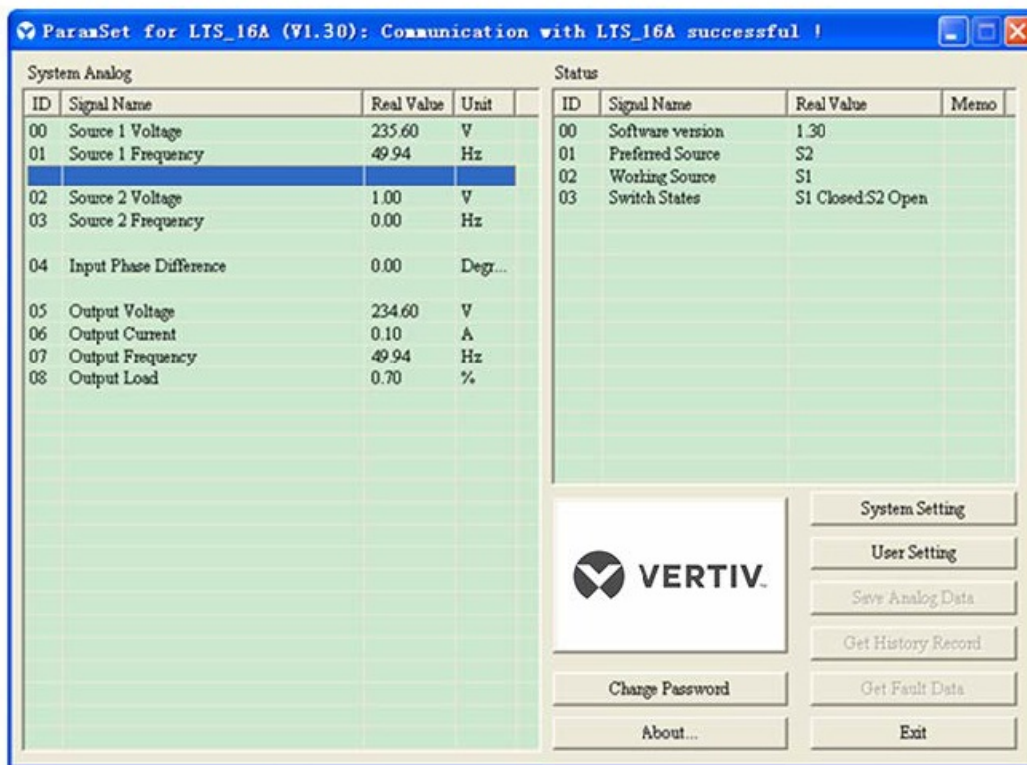
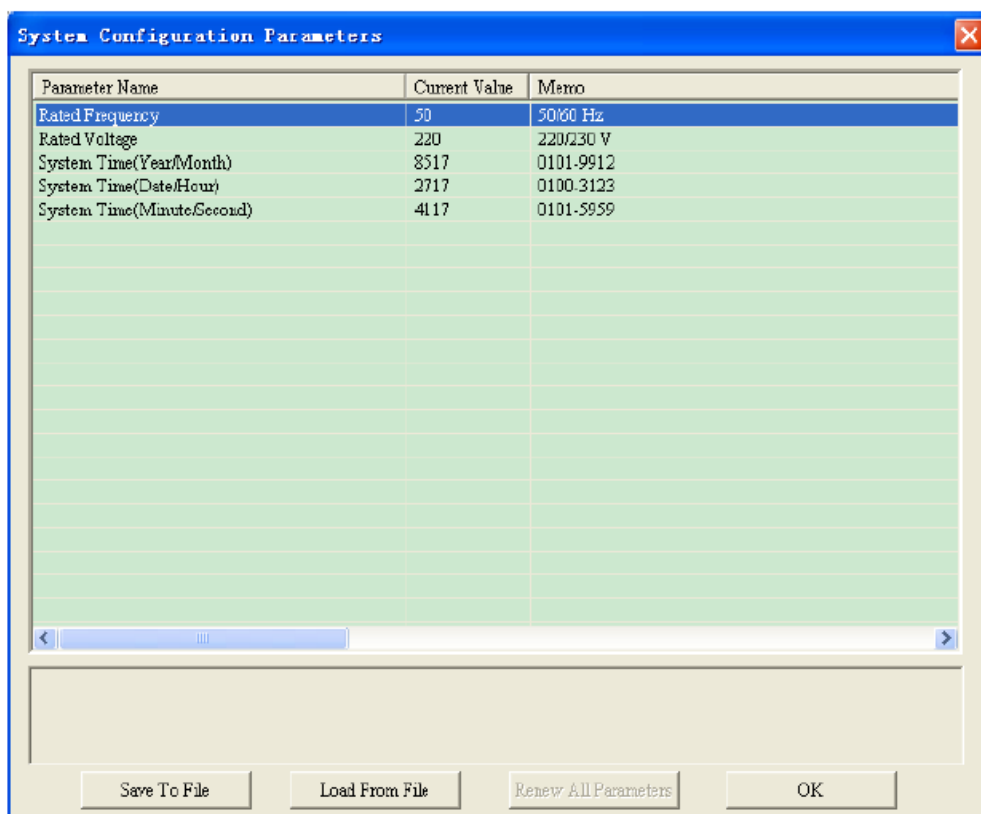

Figure 3-1 System setting interface
Figure 3-3 System Configuration Parameters interface
3. Double-click the ParamSet.exe file of the configuration software in the accessory CD, and the system setting interface appears on the computer screen, as shown in Figure 3-1.
2. Input the old password, and the new password twice. Click the OK button, and the system setting interface shown in Figure 3-1 returns.
- In the interface shown in Figure 3-1, click the System Setting button, and you will access the interface for changing the settings of parameters 1 to 3 in Table 3-1; click the User Setting button, and you will access the interface for changing the settings of other parameters in Table 3-1. The parameter setting ranges and defaults are listed in Table 3-1. The procedures for changing all parameter settings are the same, specifically:
1. Click the System Setting button in the interface shown in Figure 3-1, and the System Configuration Parameters interface appears, as shown in Figure 3-3.